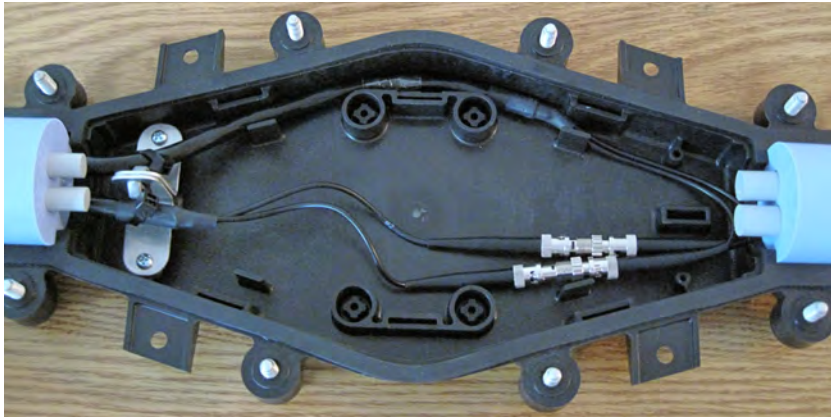

Figure 8 Route Cables and Attach Fiber
Step 8. Route cables and attach fiber together using the provided ST fiber splice bushings (see *Figure 8*).